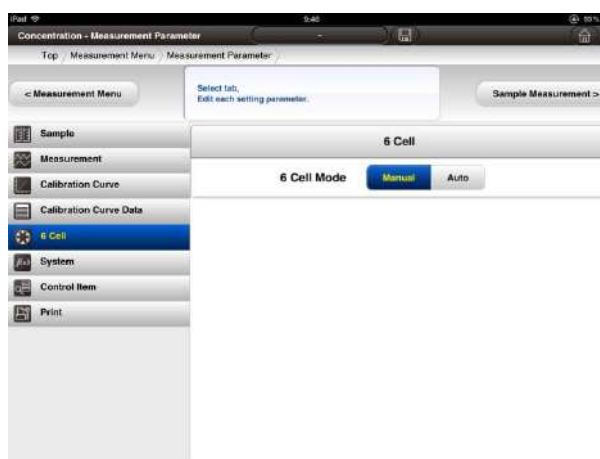

Fig. 4-89 6 Cell Conditions Window
(1) Press  [6 cell tab] in order to set the six cell conditions.
(2) The 6 cell conditions window (Fig. 4-89) will be shown.